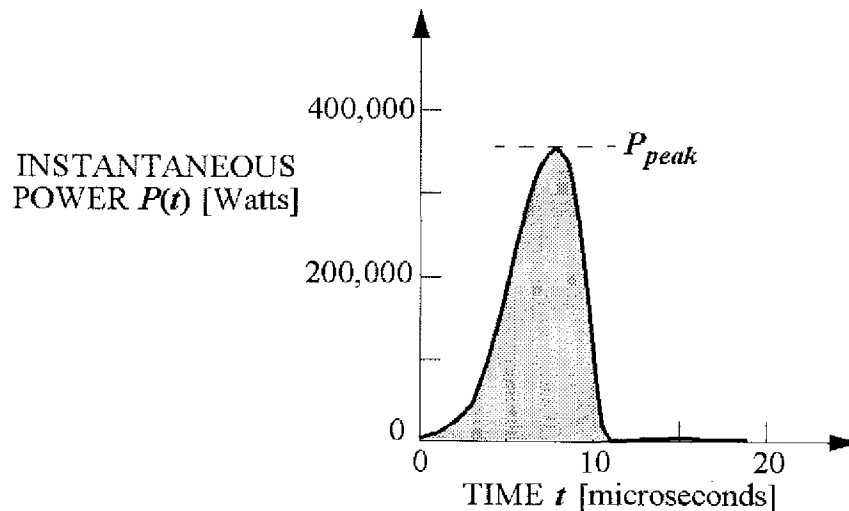

Fig. 2 - Instantaneous output power  $P(t)$  of ADVANCED TASER M26.
as shown in Fig. 2.
**(4) Energy Per Pulse:** The energy-per-pulse  $W$  [Joules] is given by the shaded area2 under the curve in Fig. 2. For the ADVANCED TASER® M26, still assuming  $R = 1,000 \text{ Ohms}$ , this area is found to be